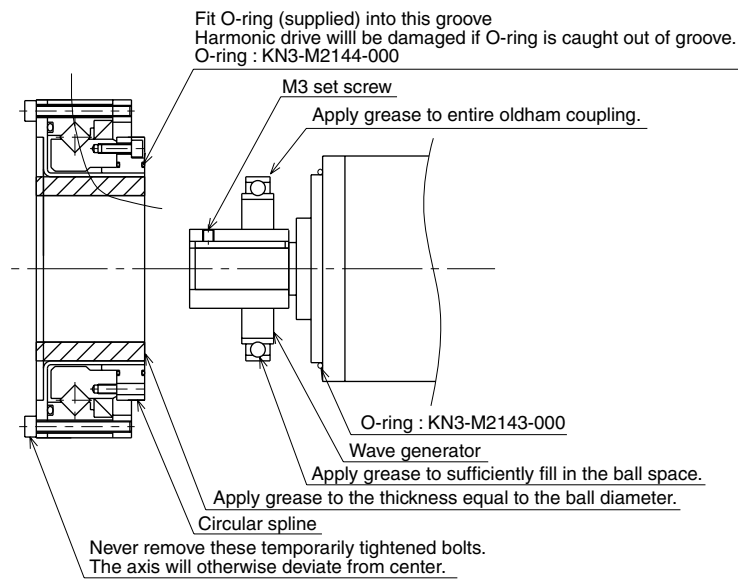

Fig. 5-6
- 10) Remove the wave generator from the motor shaft. The wave generator is secured with an M3 set screw. (See Fig. 5-6.)
See Fig. 5-6 for applying grease properly.
- 15) Fit the wave generator onto the motor shaft and fully insert it against the motor. Then, apply small amounts of “Screw Lock” to the M3 set screw (1 piece) you removed earlier and tighten it to secure the wave generator. (See Fig. 5-6.)